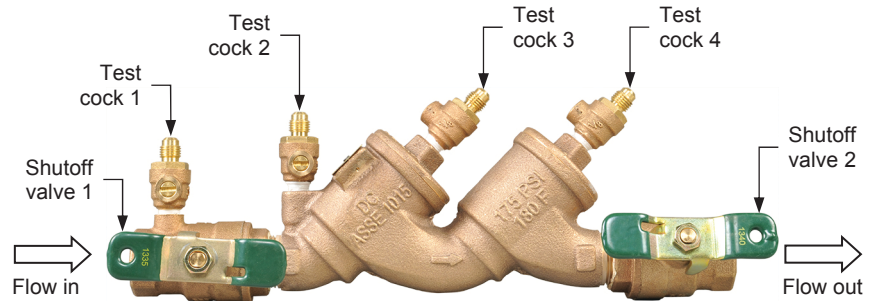

Figure 36. Angled Double Check Valve Assembly with shutoff valves open.
11. Make sure the test cocks of the Angled Double Check Valve Assembly are closed. Slowly open shutoff valve 1. Wait 5 seconds. Slowly open shutoff valve 2. See Figure 36.